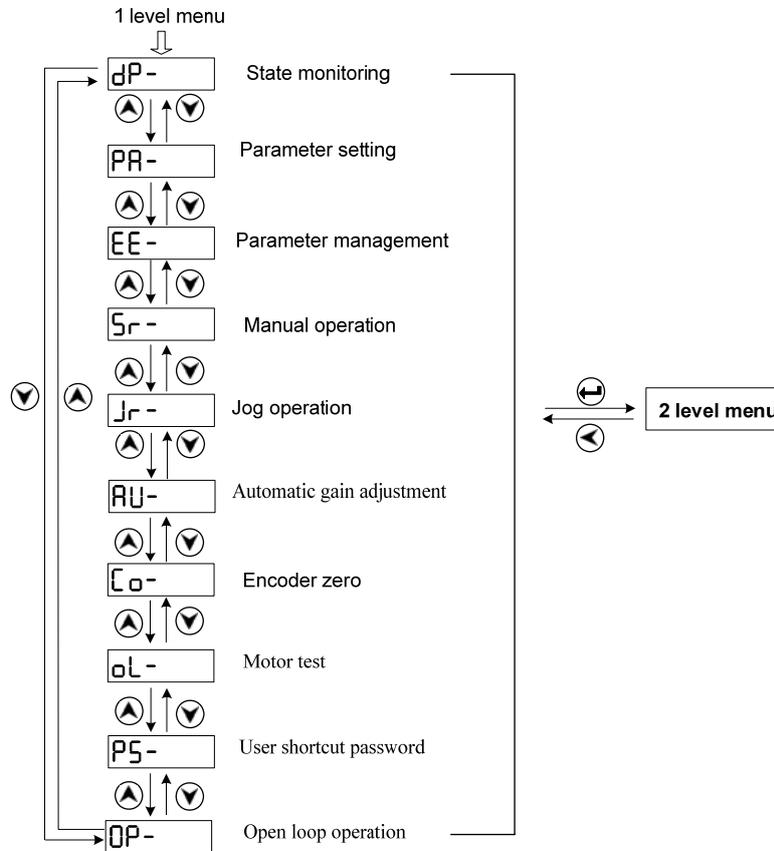

Fig. 6-1 Operating frame of mode selection
- Performance is executed among multi-layer operating menus. The first layer is the main menu including 8 operating modes and the second is the functional menu for each operating mode. Fig.6-1 is the operating frame of the main menu: